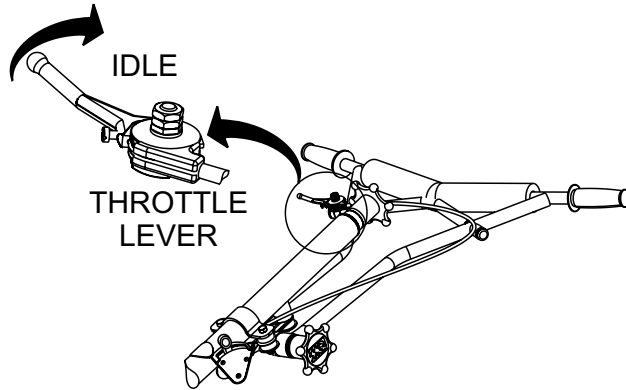

Figure 36. Throttle Lever (Idle)
1. Move the throttle lever to the (Figure 36) **IDLE** position and run the engine for three minutes at low speed.